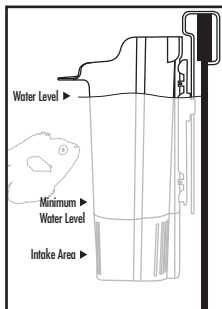

Fig. 4
4. See diagram for positioning and max and min water levels (Fig. 4). To adjust the height of your filter, simply slide the filter up or down along the hanger track. If you can't position the filter to your desired water level, you may set the filter on a sand-free aquarium bottom or you may need to order suction cups (see spare parts list to order) and set up as shown in Fig. 5.